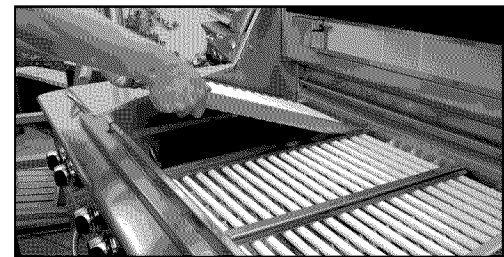

FIG. 25
5. Place the assembled radiant in the unit (Fig. 25).